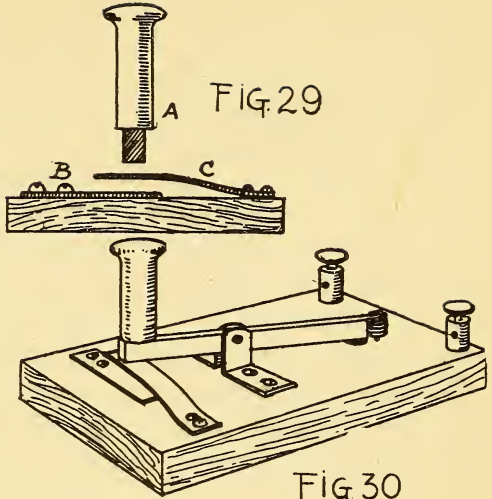
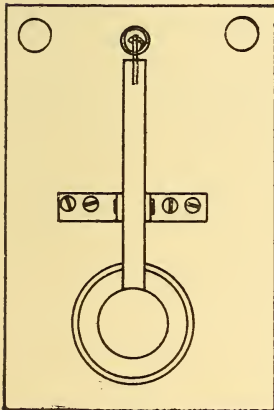
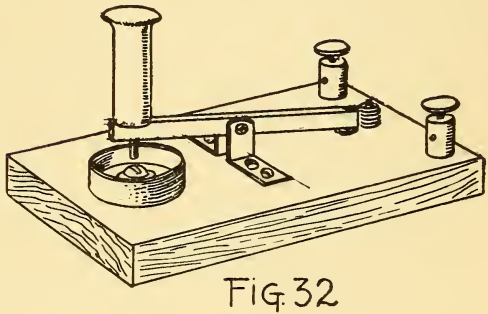

FIG. 30
FIG. 31
FIG. 32
is given in Fig. 29. The strip (B) lies flat on the block, and is connected with one binding-post by a wire attached under one screw-head and run along the under side of the base in a groove to the foot of the post. Strip C is of spring-brass, and is made fast to the base with screws. This is "dead," as no current passes through it, and its only use is to interrupt. The bar (A) is arranged as explained for the line telegraph-key, and the remaining binding-post is connected to it by a wire run under the base and brought up to one of the angle-pieces forming the hinge. A high wood or porcelain knob is made fast at the forward end of the bar, so that when high-tension current is employed the spark will not jump from the bar to the operator's hand. The complete key ready for operation is shown at Fig. 30, and to make it permanent it should be screwed fast to the table, or cabinet, on which the coil and condenser rest. The plan of a "wet" key is shown in Fig. 31, and the complete key in Fig. 32.